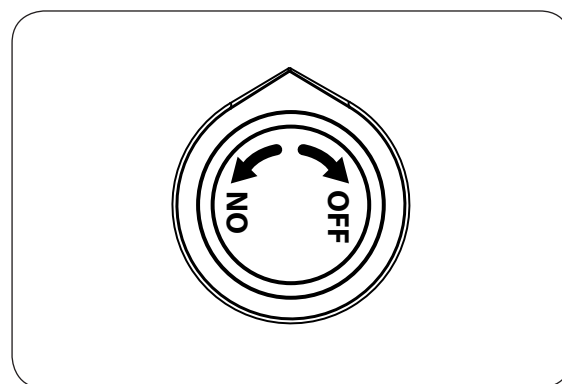

Fig. 29-2
4. **Once the match is burning and in position**, depress the gas control knob and turn it counter-clockwise to the **ON** position (see Fig. 29-2). Your burner should light.
To extinguish your gas burner, depress the gas control knob and turn it clockwise to the **OFF** position (see Fig. 29-2). Be sure the control knob is turned fully off to avoid any gas leakage.